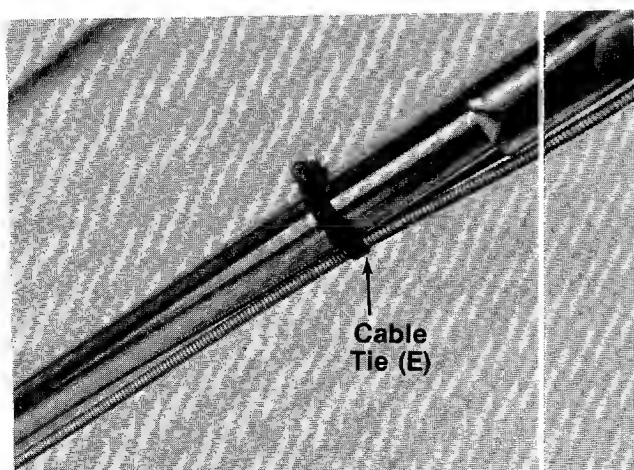

FIGURE 9.
16. Secure throttle control and brake cables to upper and lower handles with cable ties (E). See figure 9.